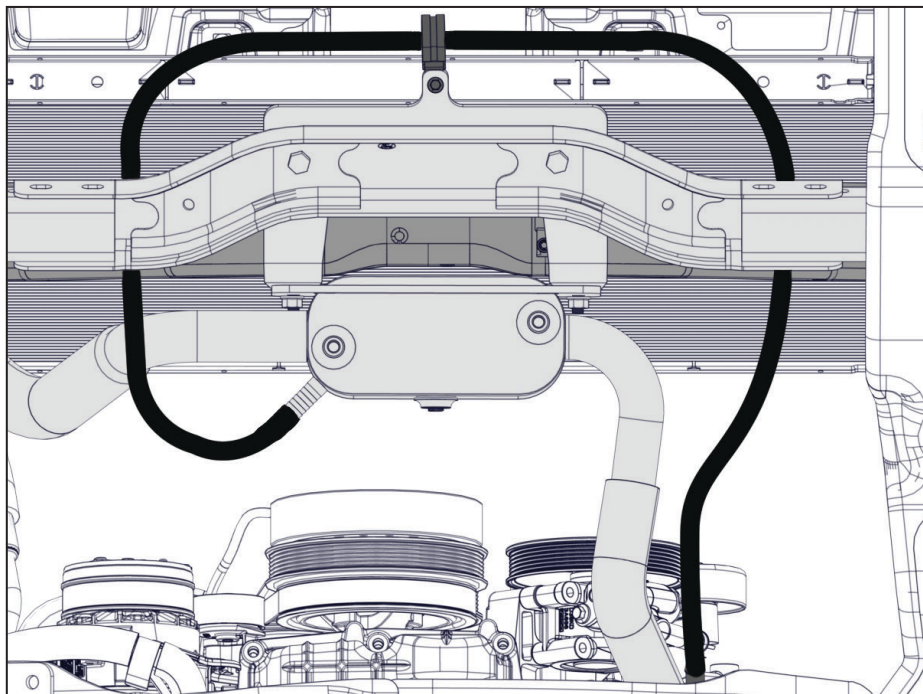

Figure 13 — Connect coolant bypass hose
- ☐ Using a gear clamp, secure the 5/8 in hose to the steel bypass line coming off of the engine. Route the hose between the body coloured radiator support and the black crossmember, to the front of the cooler bracket, and back between the radiator support and the crossmember (Figure 13).
- ☐ Connect the hose to the small spigot on the passenger side of the cooler using a hose clamp (Figure 13).
- ☐ Using the supplied P-clip and fasteners, secure the hose to the front of the cooler bracket (Figure 13).